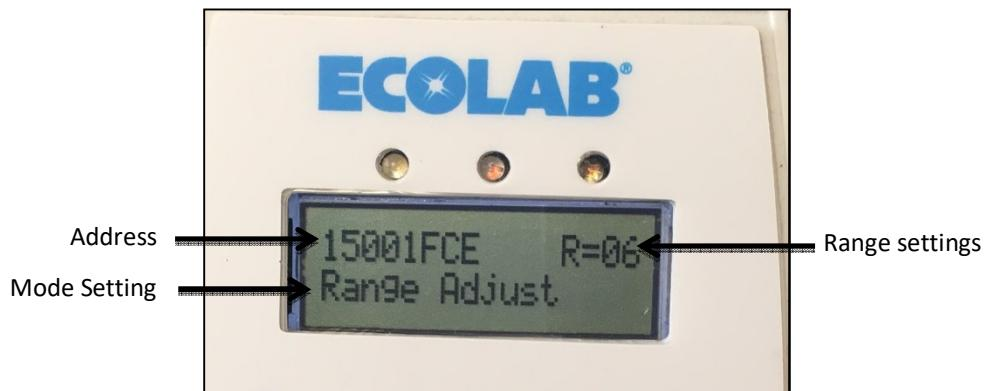

Figure 3. Installation Tool screen
1. With the NEXA HHCM 915 TOUCH FREE DISPENSER BEACON installed in the dispenser, hold the Installation Tool within 10 inches of the dispenser and select mode "Range Adjust" (Refer to Ecolab Beacon Installation Tool Users Guide). Activate the dispenser (*i.e.*, dispense product) to establish communication between the NEXA HHCM 915 TOUCH FREE DISPENSER BEACON and the Installation Tool. Note: both yellow and red LED on the Installation Tool will flash when it has successfully communicated with the NEXA HHCM 915 TOUCH FREE DISPENSER BEACON. The NEXA HHCM 915 TOUCH FREE DISPENSER BEACON address (device ID number) and its current range setting should be displayed on the Installation Tool screen (See Figure 3).
2. To adjust the communication range, press the UP  (increase) or Down (decrease)  key on the Installation Tool until the desired range setting is displayed, then press the "Select" button. An audible confirmation from the Installation Tool should be heard. Activate the dispenser to complete the update to the range setting on NEXA HHCM 915 TOUCH FREE DISPENSER BEACON. Note: The LED on the dispenser will flash two (2) times when the range setting has successfully updated.